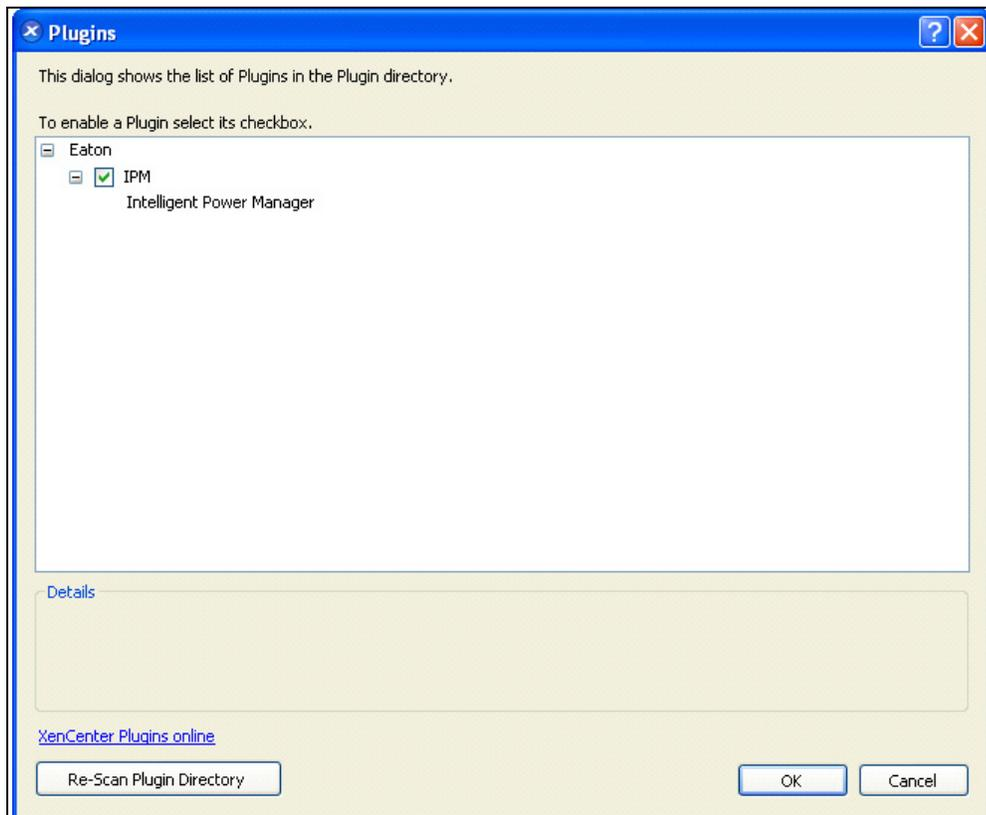

Figure 131. Plug-in Directory (Rescan)
- If not, click **Re-scan Plugin Directory** (see Figure 131).